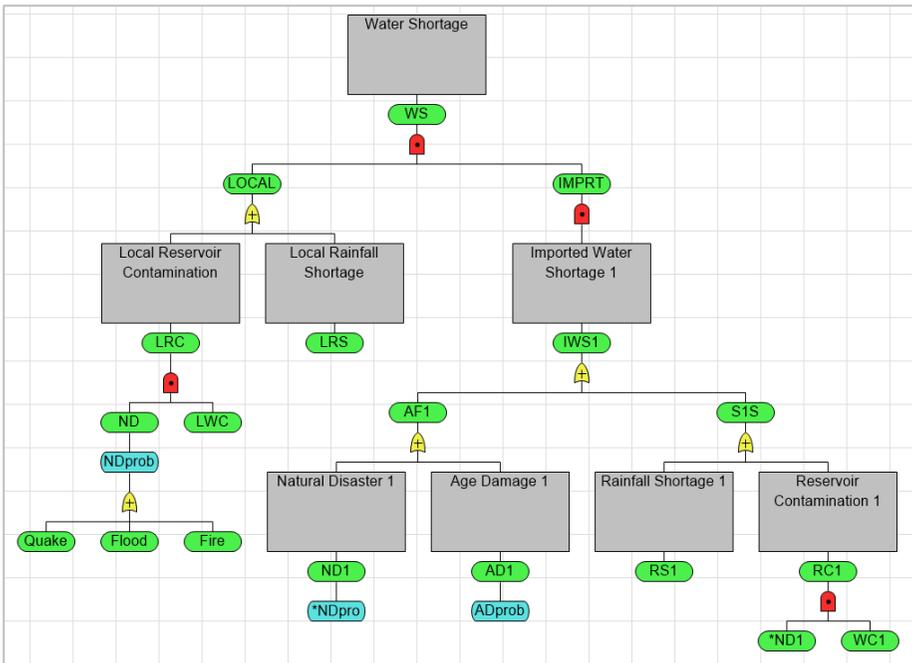

Figure 3-23. Fault Tree with AND Gate Named IMPRT Added
- ⇒ Connect the IWS1 node to the AND gate named IMPRT. Your fault tree should look like Figure 3-23.